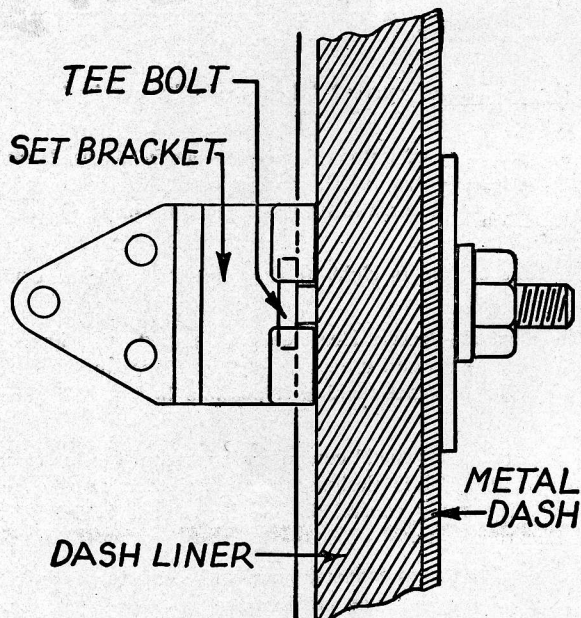

FIGURE 1
**RECEIVER**—Install the Receiver on the left side of the dash above the steering column. A cardboard template is furnished so that the mounting bolt hole location can be easily and accurately marked on the dash. The Receiver fastens to the dash with two "Tee" bolts. (See Figure 1). Drill two 7/16" holes and loosely assemble the "Tee" bolts. Install the Receiver on the dash, hooking the "Tee" bolts into the brackets on the Receiver. Tighten the Receiver securely in place.